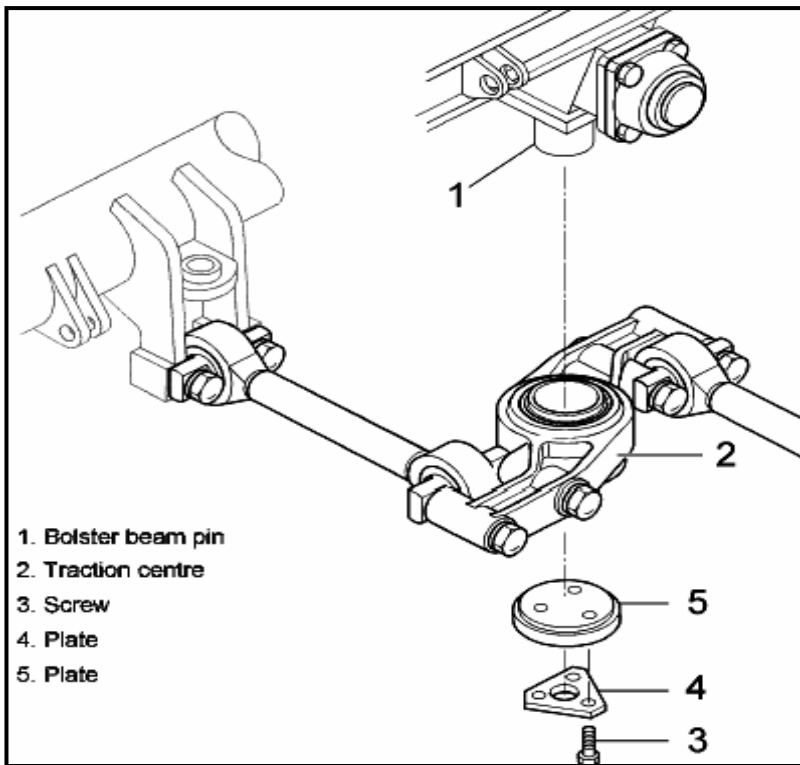

Fig. 3.5 Disconnection from Traction Center
After pressing the bolster beam, as described in Para. 3.1.2, disconnect the bolster beam central pin (Fig. 3.5) from the traction center (2) extract the screws (3) which fix the plates (4) and (5).